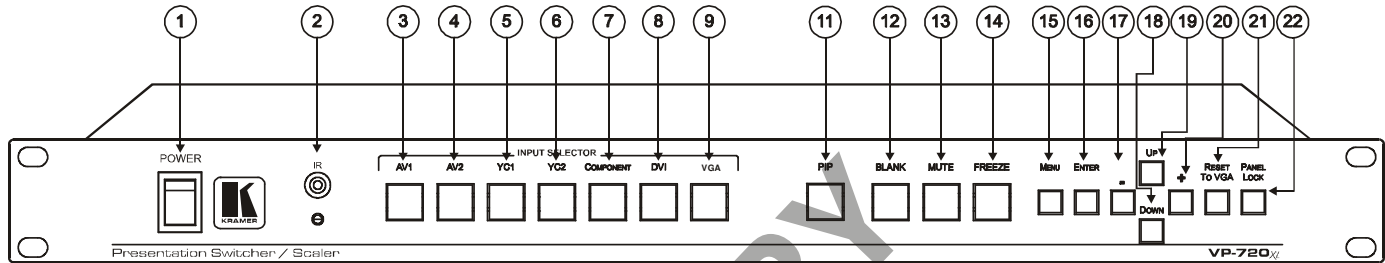
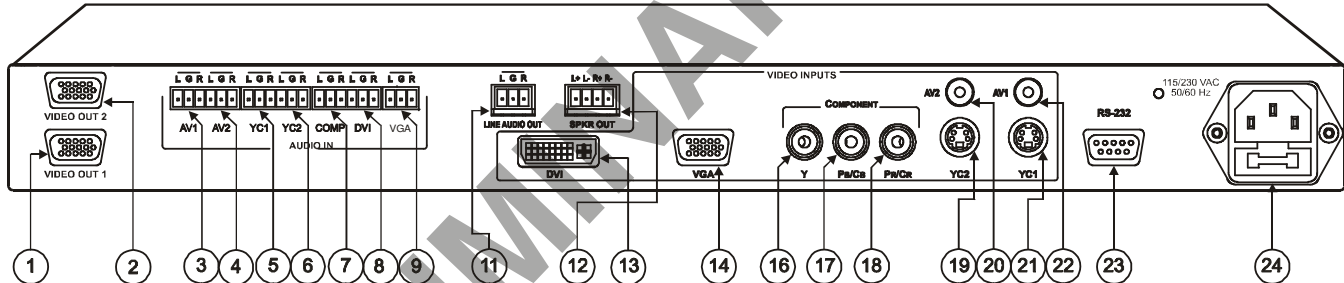

Figure 3: VP-720xl Presentation Switcher / Scaler Front Panel¹
Figure 4: VP-720xl Presentation Switcher / Scaler Rear Panel²
- Figure 3 and Figure 4 illustrate the **VP-720xl** *Presentation Switcher / Scaler*